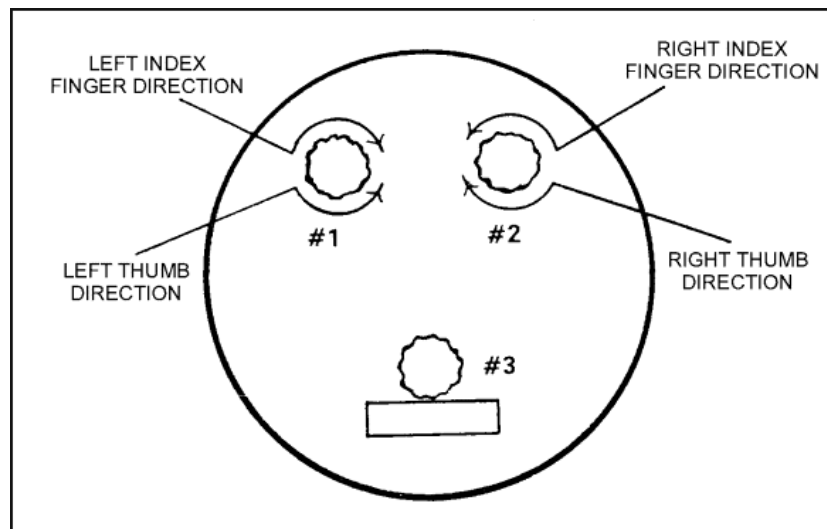

Figure 2-6. Leveling screws.
d. Loosen the leveling screws to expose sufficient threads ($\frac{3}{8}$ to $\frac{1}{2}$ inch) on the three screws to permit the instrument to be leveled. Number the leveling screws clockwise, 1, 2, and 3 (Figure 2-6). Now place the tubular level vial over the notation pad. Grasp leveling screw number 1 between the thumb and forefinger of the right hand, and grasp leveling screw number 2 between the thumb and forefinger of the left hand. Turn the screws so that the thumbs move toward or away from each other. Using these two leveling screws, center the bubble. The bubble moves in the same direction as the left thumb.